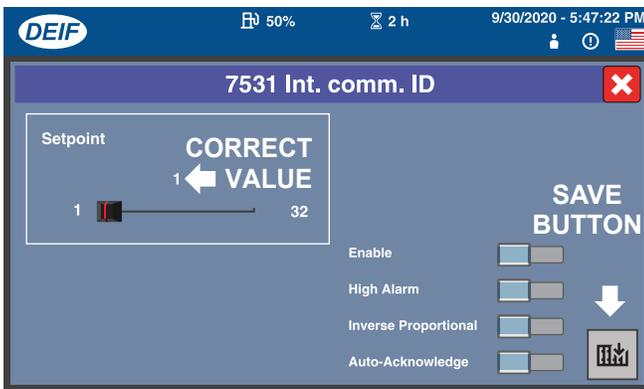
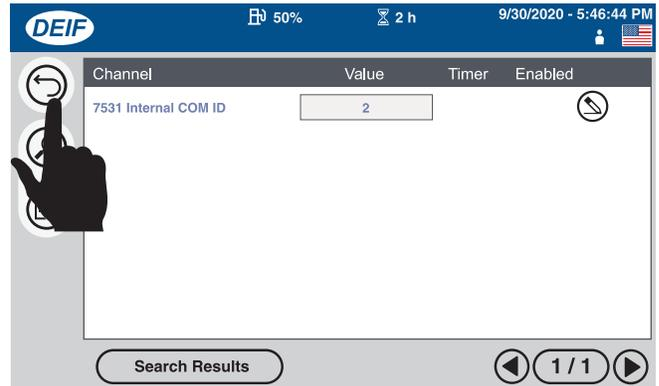
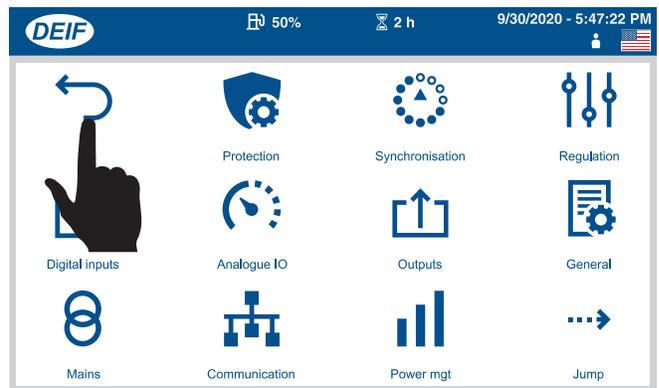

Figure 105. Internal Communication ID Screen (Value Entered)
Figure 106. Search Results Screen (Return Button)
Figure 107. Controller Settings Groups Screen (Return Button)
16. Verify that the **Internal Communication ID** screen is displayed with the correct **Internal Communication ID** value (Figure 105).
17. Press the **Save** button (Figure 105). The touch display will return to the **Search Results** screen (Figure 106).
18. Press the **Return** button (Figure 106) to return to the **Controller Settings Groups** screen. See Figure 107.
19. Press the **Return** button (Figure 107) to return to the **Home screen (1 of 7)** on the touch display.